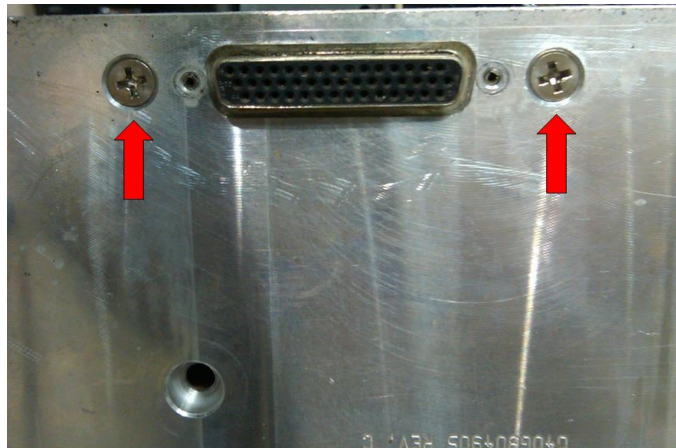

Fig. 52
4. Remove the two Phillips screws holding the cable support (Fig. 53) to the carriage. (Fig. 52)
8. Take the new cable and orient it properly so that you can tape one end of the new cable to the opposite end of the old cable. You will be using the old cable to pull the new cable into the track. **MAKE SURE** that you get the new cable with the correct side up so that when the connector is folded into position to attach to the carriage, the connector will be oriented as shown in Fig. 52. If you get this wrong the first time, you will need to pull the cable back out to flip it over.
14. You can now re-install the entire cable support assembly back onto the PH carriage. NOTE: Be sure that the orientation of the D-SUB connector is correct as shown in Fig. 52 so that the PH connector can match up to it. If this is wrong, you will need to remove the white ribbon cable completely from the energy chain and flip it over.